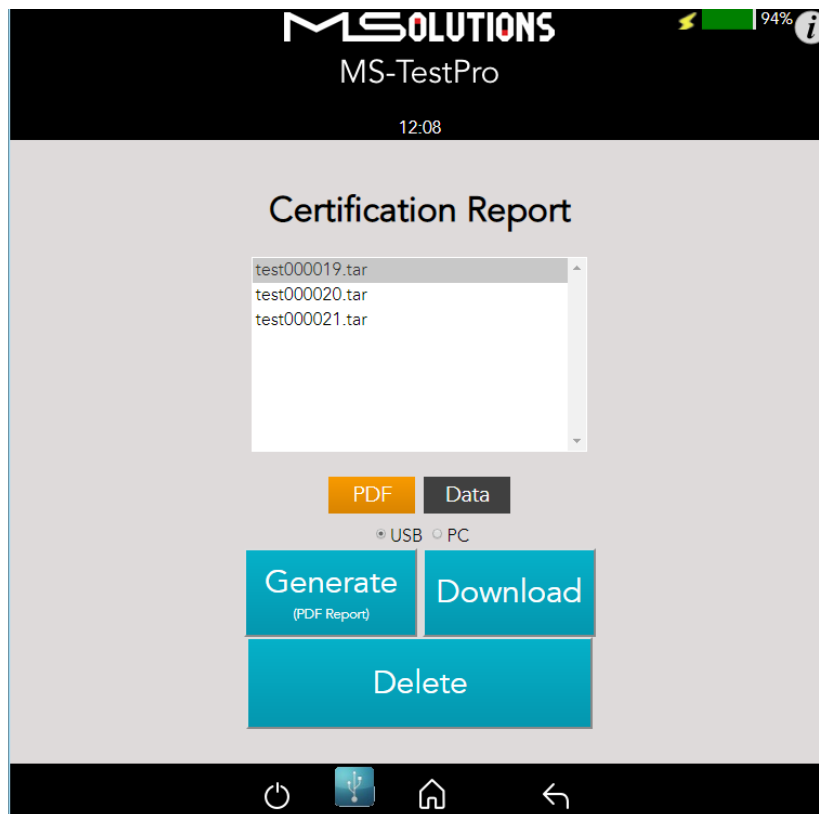
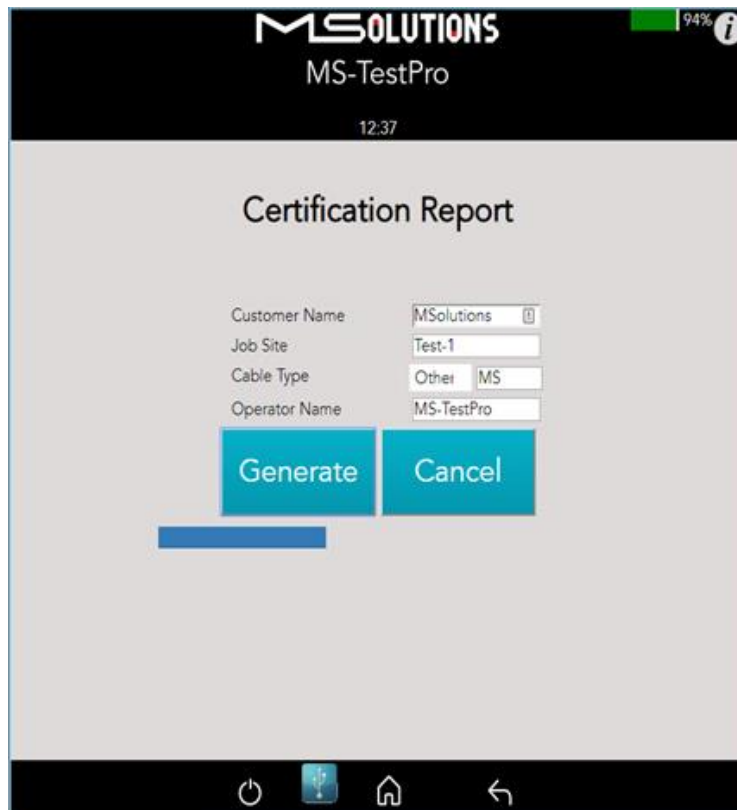

Figure 105: Certification Report Data File Options
Figure 107: Certification Report
6. To create a PDF Report, select **Generate (PDF Report)**, and select one or more report data files from the list, as shown in Figure 105. Tap **Generate**, as shown in Figure 107.
To see generated PDF Report, check PDF on the Figure 105 and Download to PC or USB.